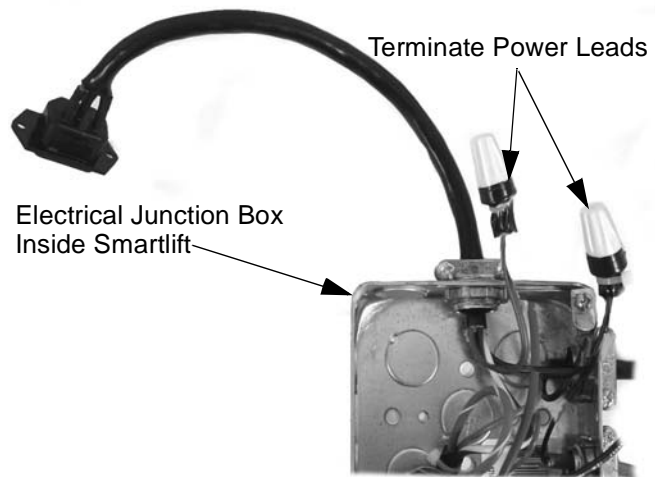

Figure 8. Disconnect and Terminate Power Cord Leads
1. Disconnect and terminate the electrical leads from the power cord receptacle at the interior junction box (see Figure 8).